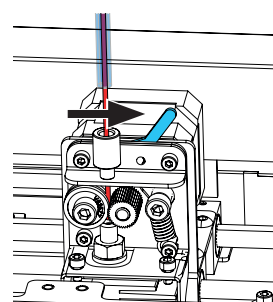

Fig. 27
- ⇒ Now move the lever of the extruder to the right (Fig. 27)